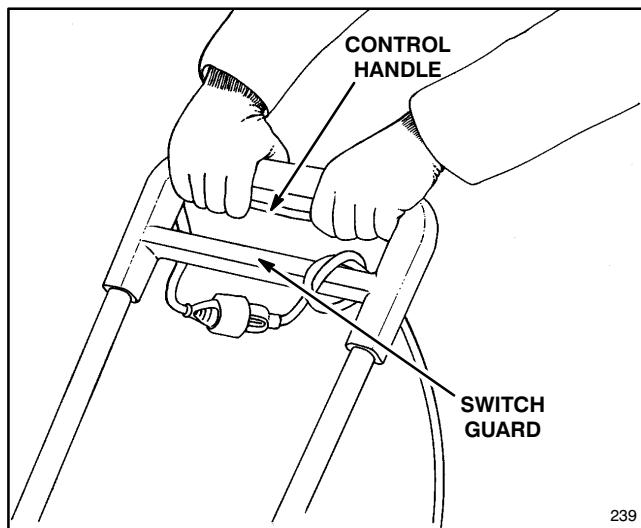

Figure 4
9. To prevent disconnection of snowthrower cord from extension cord during operation, tie extension cord to switch guard before connecting to snowthrower cord; refer to page 4, figure 4 for proper procedures.
1. Tie the extension cord to the switch guard before connecting to the snowblower cord. This prevents separation of the cords during operation (Fig. 4).
To start rotor, make sure key is installed, and squeeze the control handle. To stop, release the control handle (Fig. 4).
1. Squeeze the control handle to start the rotor (Fig. 4). The depth and weight of the snow governs the forward speed.